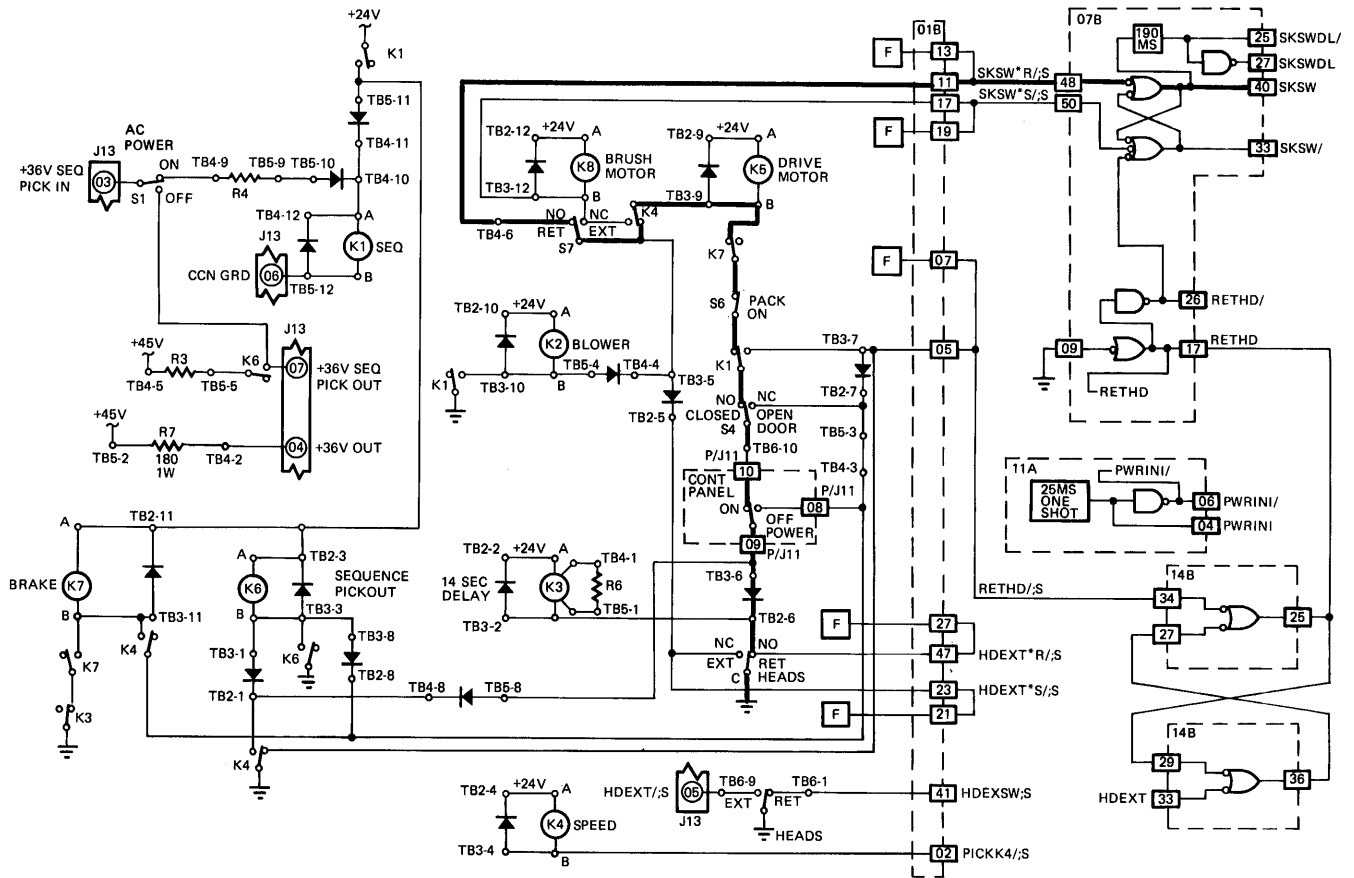

Figure 3-10. Completing Brush Cycle and Initializing First Seek
- Figure 3-10. Moving Carriage During First Seek